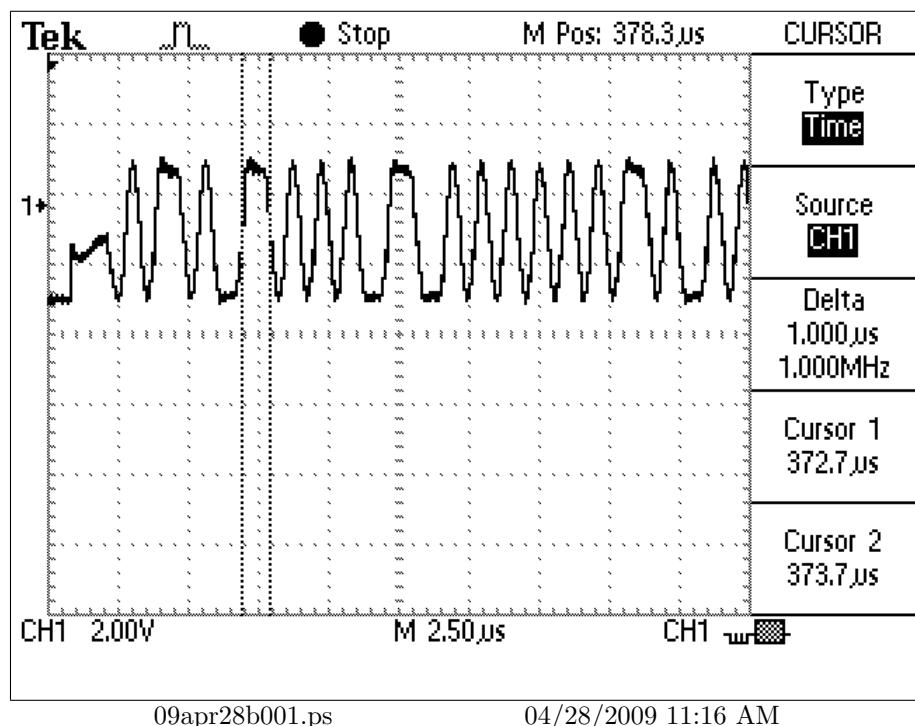

Figure 12: Duration of a “1” bit
- 7.2 It appears that “1”’s are $1\mu s$ long. (Figure 12, page 15)